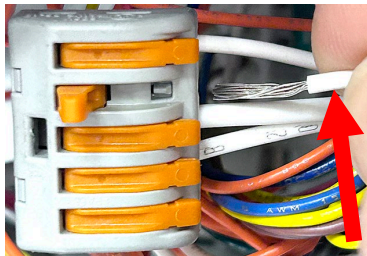

Figure 46
- 49. Locate the large **WHITE** wire from the OIB sensor with the stripped end. Insert it into the Wago snap connector, with the white wires, in the control box (see Figure 46).